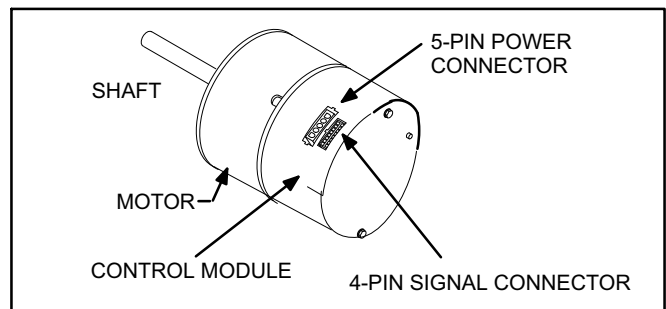

Figure 1
- 3 - Unplug the 5-pin power cable and 4-pin signal cable from the control module. See Figure 1 for location.